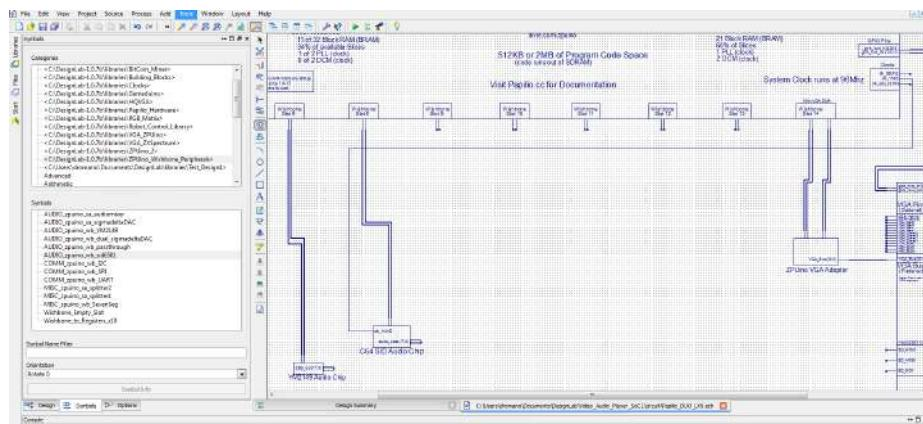

Figure 6-20 Add audio chips
3. Connect the Wishbone bus of the YM2149 audio chip to Wishbone slot 6 of the ZPuno soft processor and the C64 SID audio chip to slot 8. Don't forget to connect the `ck_1MHz` clock of the SID to the `ck_1MHz` clock of the ZPUino, as seen in Figure 6-20.